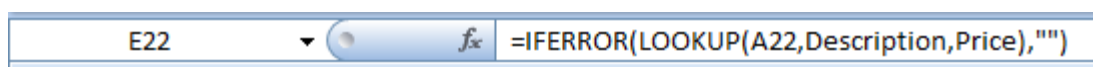

Figure 8.25. IFERROR Function nested around price lookup function.
6. Click cell E22 and modify the LOOKUP function so that it is nested inside the IFERROR function as shown in Figure 8.25.